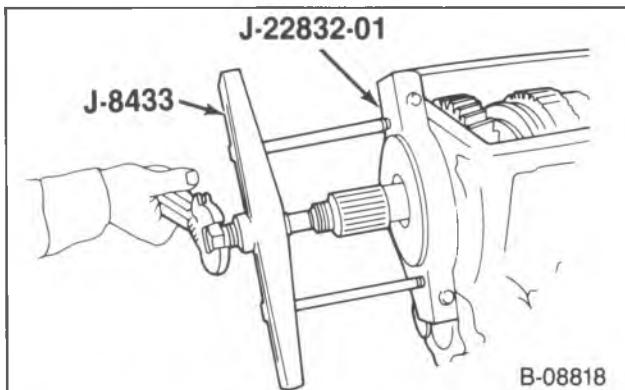
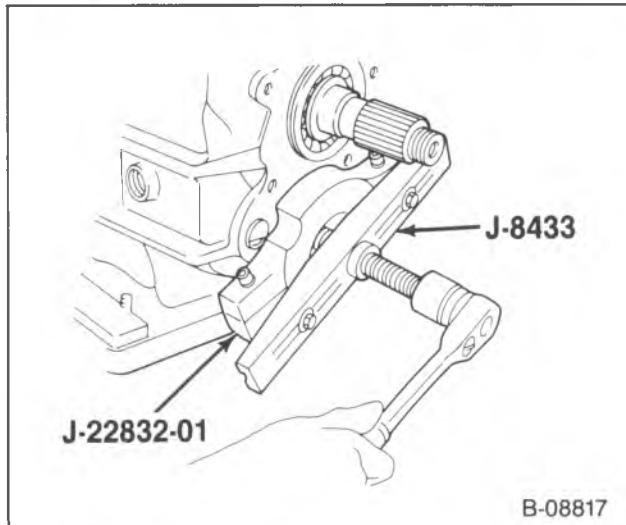
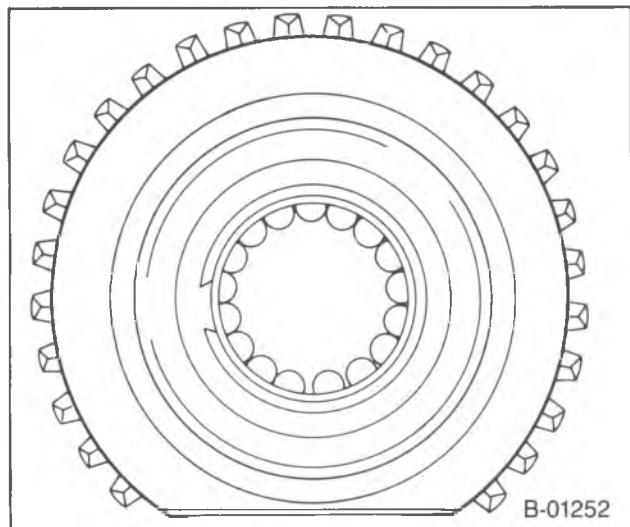

Figure 26—Removing the Mainshaft Rear Bearing
Figure 24—Removing the Countergear Rear Bearing
Figure 25—Main Drive Gear Cutout
11. Bearing (228), using J-22832-01 and J-8433, (figure 24).
12. Main drive gear (201).
- Rotate the gear so the cutout portion is down to clear the countershaft, (figure 25).
13. 4th speed blocker ring (204).
14. Bearing snap ring (218).
15. Bearing (224), using J-22832-01 and J-8433, (figure 26).
16. Mainshaft (250) from the case.
17. Countershaft (227) from the case.
18. Idler gear (230) and the shaft.